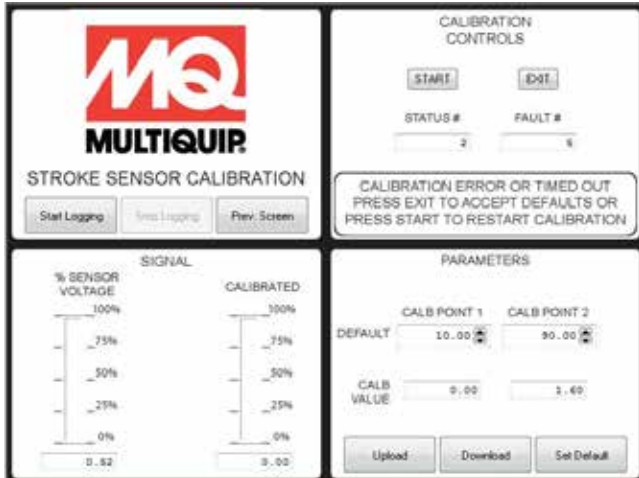

Figure 35. Start Stroke Sensor Calibration
- b. Read % Sensor Voltage (Figure 35).